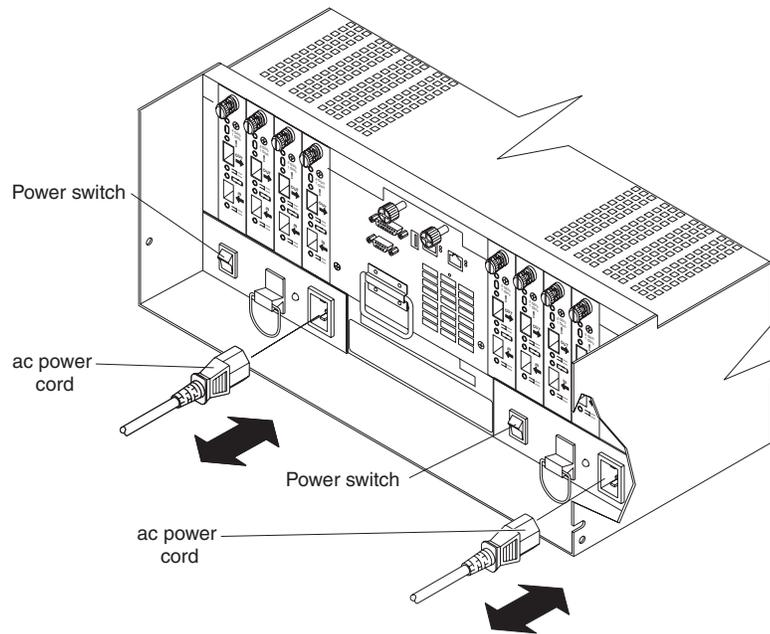

Figure 23. Connecting the power cords and power switch locations
- b. Turn on the power-supply switches on the back of the DS4400 Storage Server (see Figure 23 on page 25). You must turn on both power-supply switches to take advantage of the redundant power supplies.
- b. Turn off power to the storage server *before* you turn off power to the storage expansion enclosures. Turn off both power supply switches on the back of the storage server. See Figure 23 on page 25.